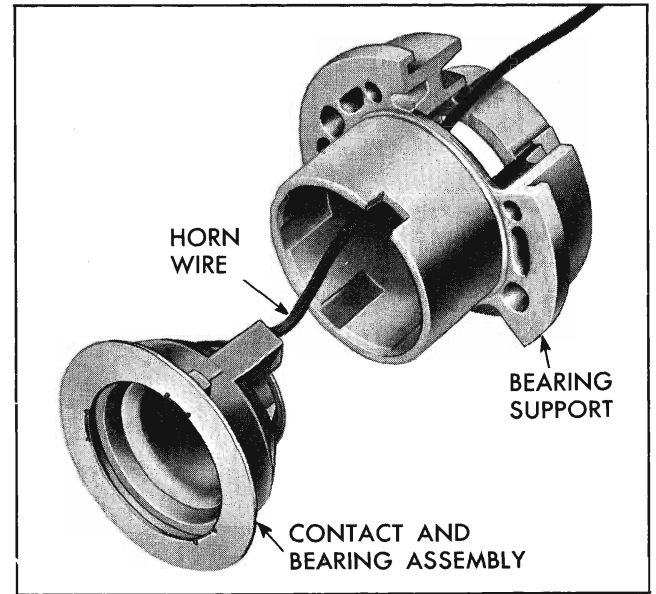

Fig. 11-134 Horn Contact and Bearing Support
1. Install horn wire and contact assembly in end of bearing support (Fig. 11-134), snaking wire through outer slots of bearing support lock plate and